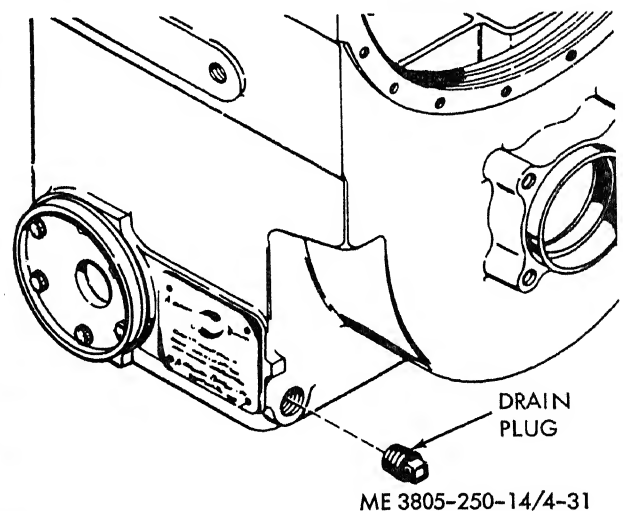
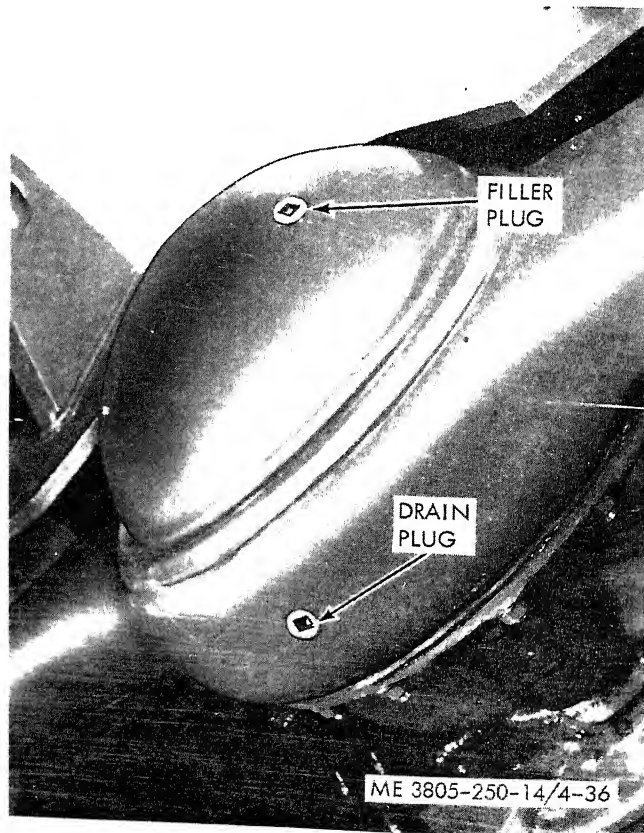

Figure 4-31. Draining transmission oil.
Figure 4-36. Differential service.
(1) *Draining.* With the transmission at operating temperature (180° F), remove the drain plug at the lower left rear of the transmission housing (fig. 4-31). Remove the oil filter (subpara e) and service the oil strainer (subpara f). Allow the oil to drain for 30 minutes. Install the oil strainer and a new filter element.
(1) Remove the drain plug (fig. 4-31) and allow oil to drain from the transmission.
(2) Clean all oil lines and fittings before removal. If several lines are to be replaced, tag lines to ensure proper installation.
(3) Disconnect clamps or attaching hardware and remove line which is to be replaced.
(4) Install a new line by reversing the removal procedure.
c. *Differential Service.* Remove the differential filler plug (fig. 4-36). Oil should run out of opening. If level is low, add oil as necessary. Refer to the Lubrication Order for the correct lubricant. Differential capacity is 13 quarts.